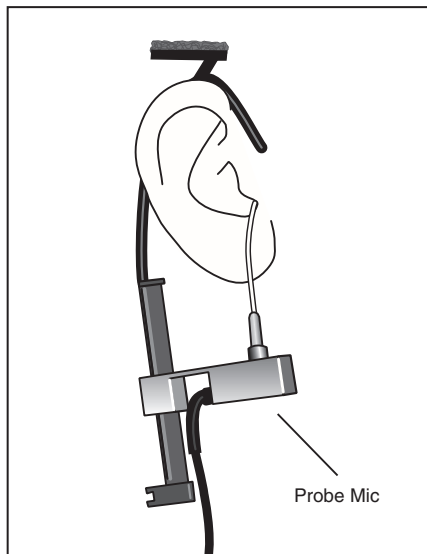

Figure 6.3.5C—Insert probe microphone
2. Insert the probe microphone into the client's ear, as described in Section 6.2.3. See Figure 6.3.5C.